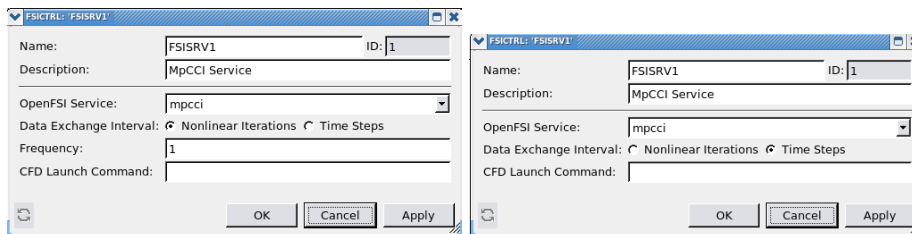

Figure 2: OpenFSI Data Exchange Interval under SimXpert: on the left implicit and on the right explicit setting
- Choose whether coupling should occur at each (Data Exchange Interval Figure 2):